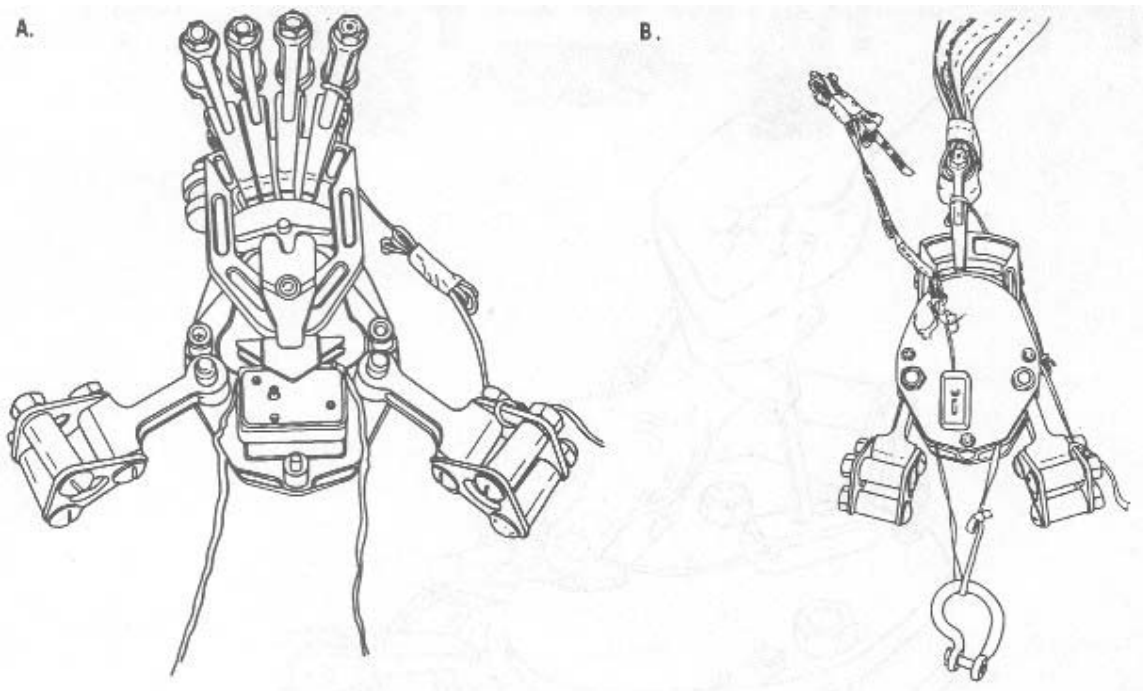

Figure 3-42
8. Test the delay release timer. (See Figure 3-42)